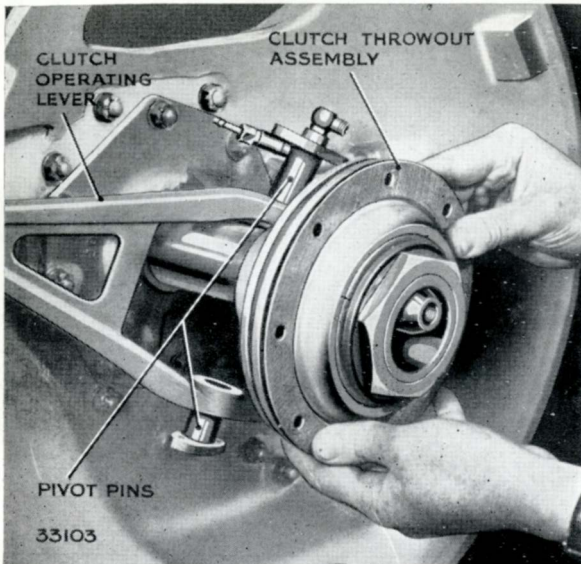

FIG. 14. REMOVING THE WITHDRAWAL ASSEMBLY
5. Slide the withdrawal sleeve assembly off the clutch shaft housing, as shown in Fig. 14.